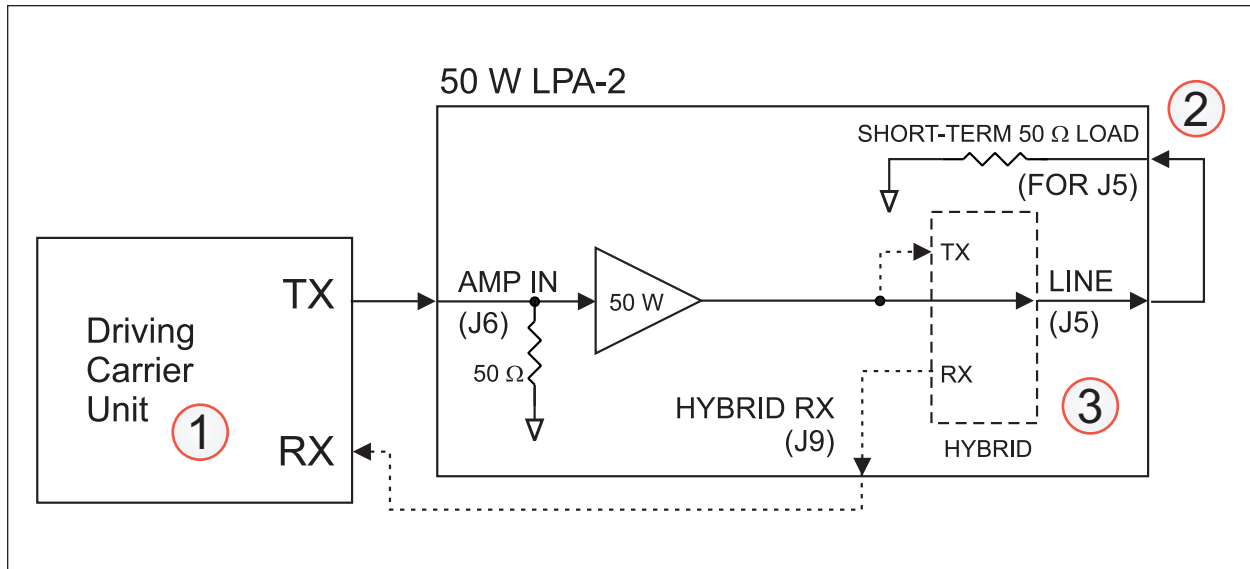

Figure 6-1. Simplified Connections – 50 W.
NOTES for Figure 6-1
1. Verify proper connections per the connection diagram, (Figure 6-1). Temporarily terminate the LINE (J5) output of the 50 W LPA-2 with the built-in 50 Ω high-wattage load by connecting it to the SHORT-TERM 50 Ω LOAD connector above it with a coax cable.